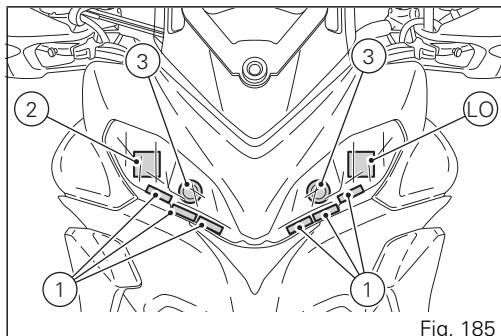

Fig. 185
(Fig. 185) shows the locations of the parking light LED unit (1), low beam LED unit (2) and high beam lights (3).